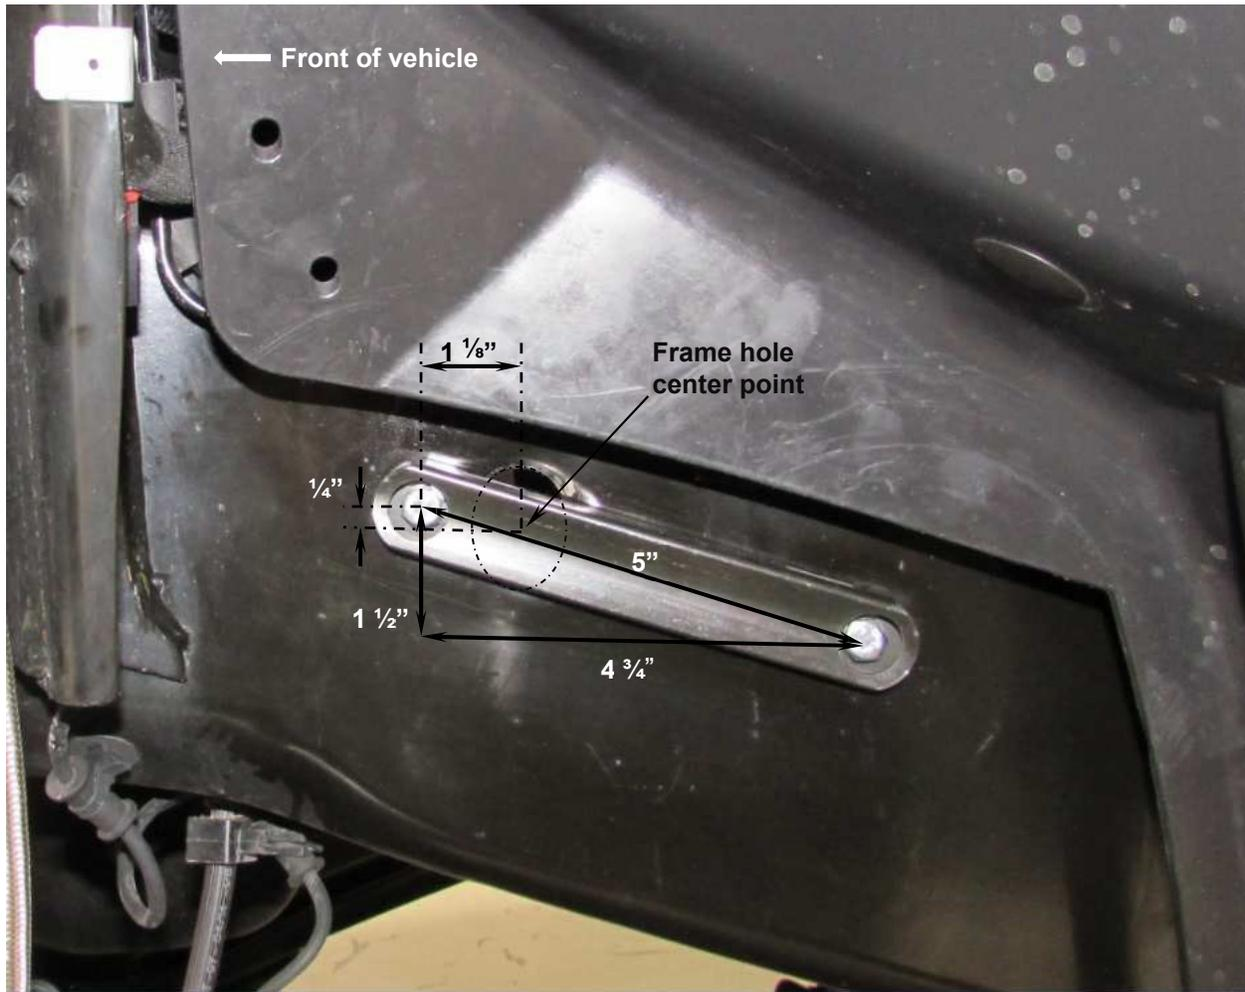

Figure 2. driver side
- C. Figure 2 depicts the recommended bracket position. The driver side is shown.